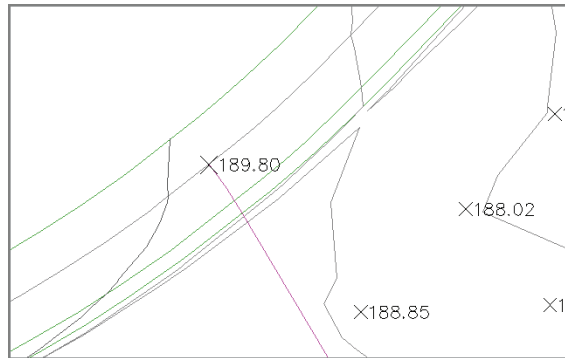

FIGURE 4.18 Spot elevation label showing 189.80' (57.85m) added where the new road meets the existing road
5. Click **Add**. Snap to the northern endpoint of the magenta centerline. A label is placed at the location you selected (see Figure 4.18).